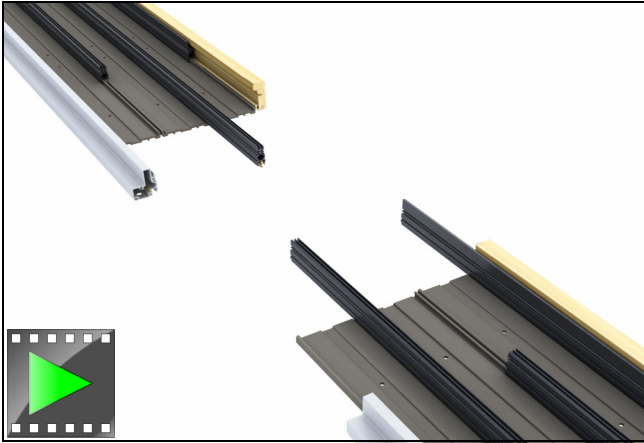

Figure 8
1. Lay out the head jamb sections top side down on a clean flat surface in the correct configuration. See figure 8.